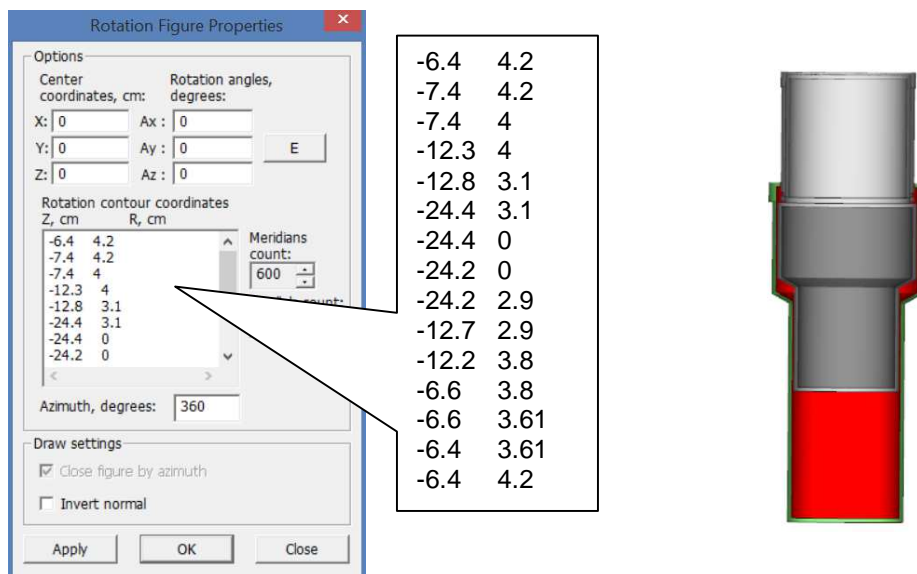

Figure 53.6
7.6 Add the element 'detector housing'. To do this in the right pane click the button **New Element** and enter the name 'Detector housing'. Next, choose from the list the type of surface **Rotation figure**. In the dialog window **Rotation figure parameters** enter the data for the construction as shown in Figure 53.6 [Section 3.2].